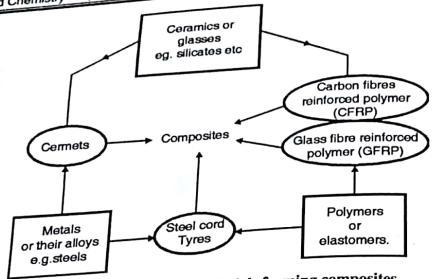

Fig. 4.1.1 : Engineering materials forming composites
- Composites are engineered materials, comprising of metals, ceramics, glasses and polymers. The relationship between these three constituents with respective examples is shown in Fig. 4.1.1.